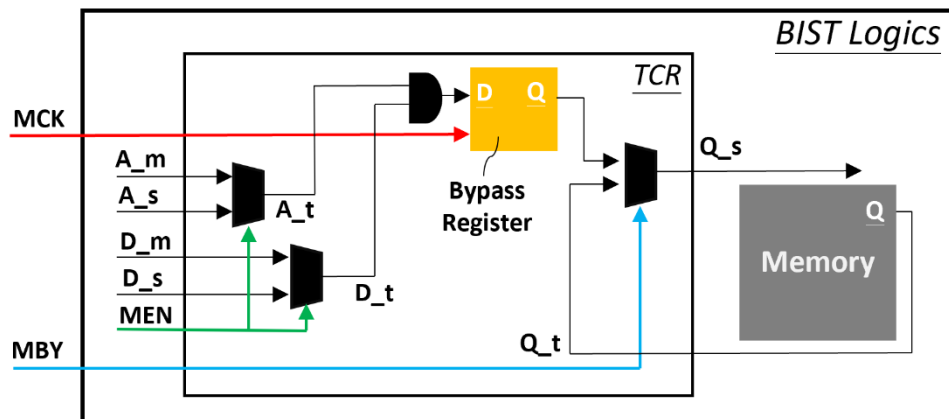

Figure 3-20 Implementation of Bypass Circuit by Register
- Reg: Implement the bypass circuit by register as Figure 3-20